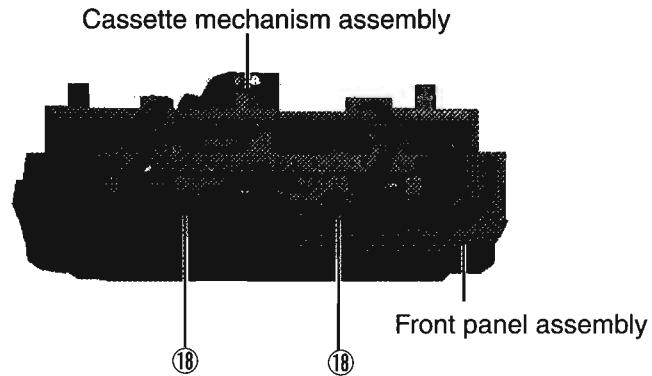

Fig. 16
6. Remove the two screws ⑰ fastening the cassette mechanism assembly from the bottom side of the front panel assembly. (See Fig.16)